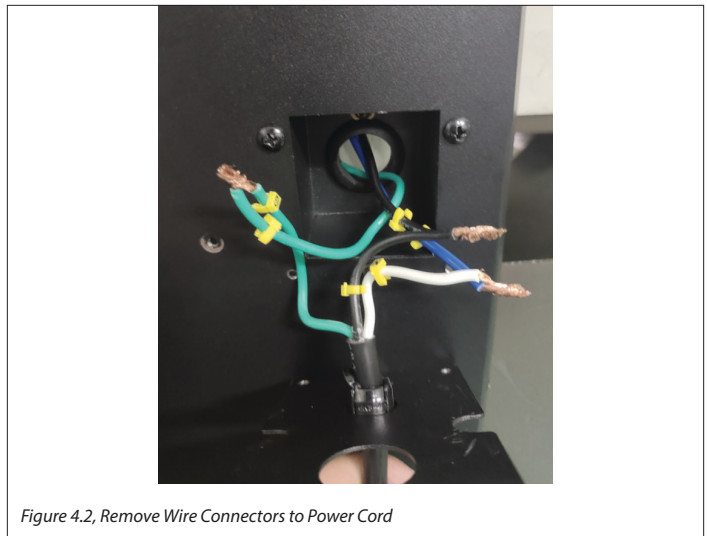

Figure 4.2, Remove Wire Connectors to Power Cord
2. Remove the wire connectors from the power cord as shown in Figure 4.2. This power cord may be discarded.
5. Using the wire connectors, connect the green ground wires together, and the neutral white and blue wires together, then the hot black wires together. See Figure 4.2.